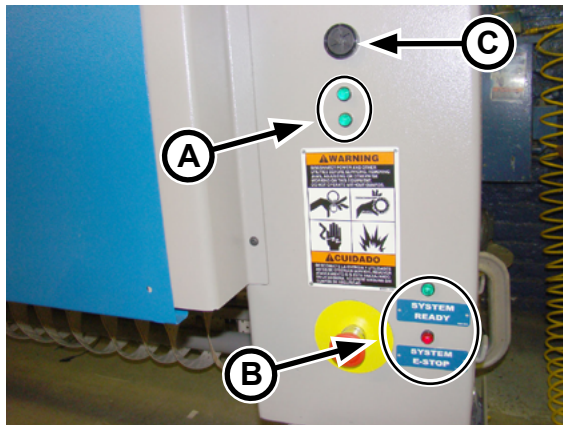

Figure 2-16: Both indicator lights must be lit for the unit to function.
3. Make sure both green indicator lamps on the front right of the O.P.L. are glowing (Figure 2-16, A).
- Make sure the O.P.L. also stops and that the red SYSTEM E-STOP lamp on the O.P.L. lights (Figure 2-16, B).
6. The Alarm (Figure 2-16, C) should sound in pulsing beeps.